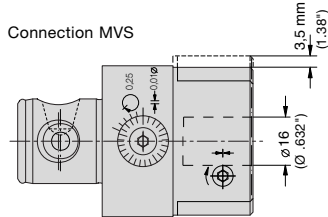

fig. 1
- On the spindle side, the tool is designed with a Wohlhaupter- **MVS** -connection (fig. 1).